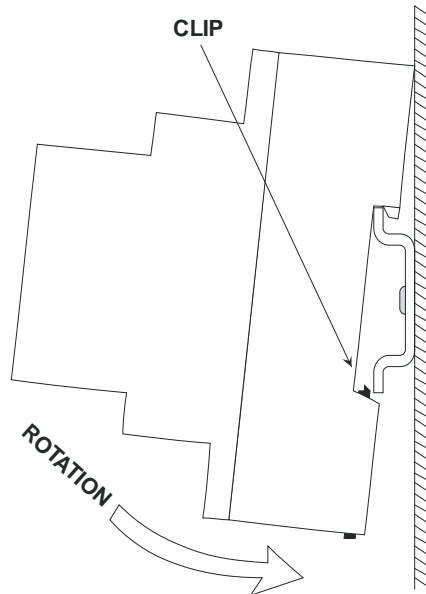

Figure 2. Mounting onto the DIN Rail
2. Push until it clips onto the rail. (See Figure 2).